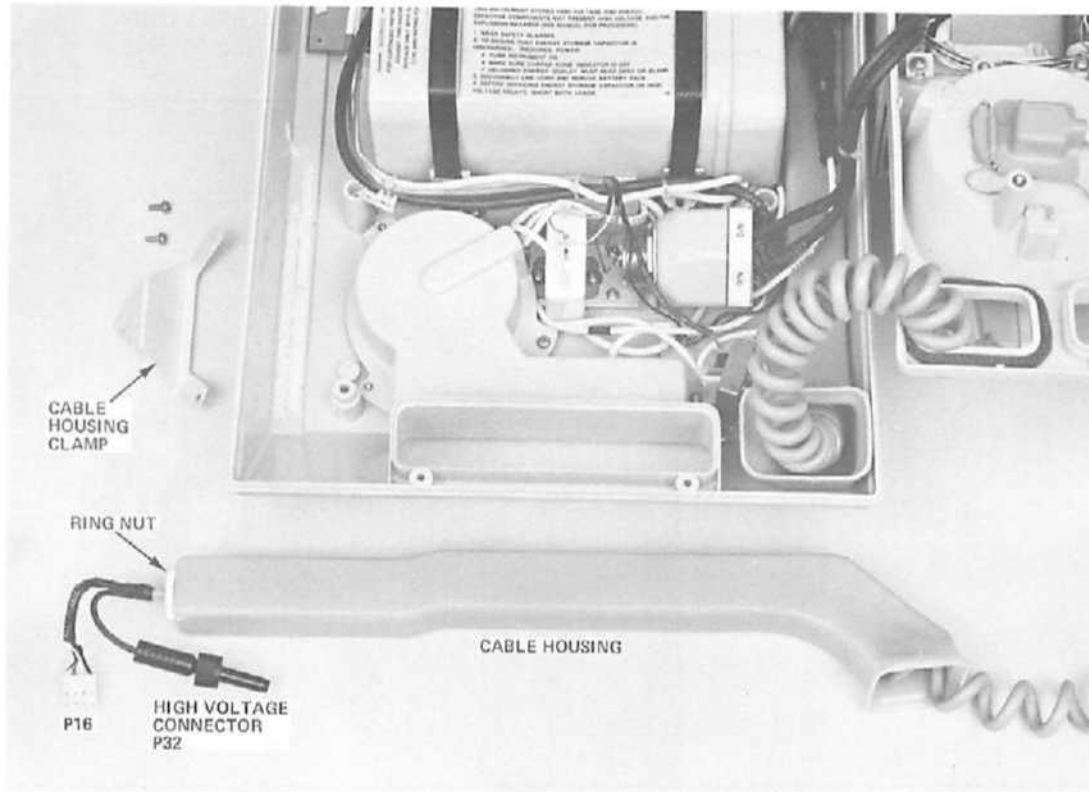

Figure 4-7.
5. See Figure 4-7. Unscrew the ring nut from the strain relief at the rear of the housing and slide it over the connectors. The 4 pin connector is a tight fit but it will clear. Pull the cable from the housing.